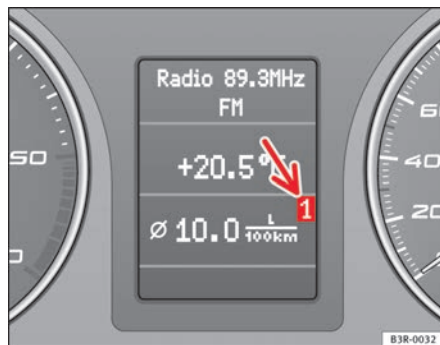

Fig. 58 On-board computer: memory 1
The numbers in the display ⇒ fig. 58 indicates which of the two memories is currently in use. The figure **1** means that the display is showing the information in the single journey memory (on-board computer 1). The figure **2** means that the display is showing the information in the total journey memory (on-board computer 2).
- Press the reset button **B** repeatedly until the on-board computer (memory 1 or 2) ⇒ page 84, fig. 58 is displayed.